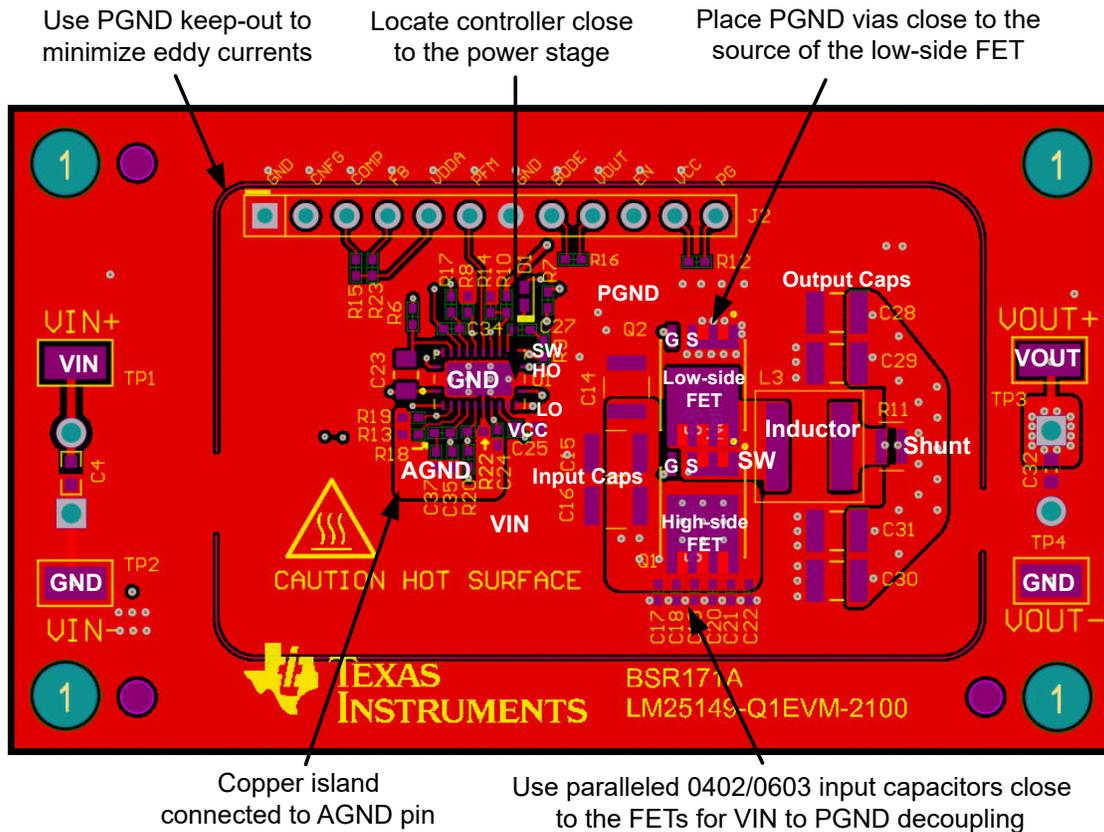

图 9-48. PCB Top Layer - High Density, Single-sided Design
- Connect AVSS to a quiet GND connection, further from IC if possible. Keep decoupling capacitor $C_{AEFVDDA}$ close to the AEFVDDA pin and AVSS GND connection. See capacitor C23 in Figure 9-48.
图 9-48 shows a single-sided layout of a synchronous buck regulator with discrete power MOSFETs, Q1 and Q2, in SON 5-mm × 6-mm case size. The power stage is surrounded by a GND pad geometry to connect an EMI shield if needed. The design uses layer 2 of the PCB as a power-loop return path directly underneath the top layer to create a low-area switching power loop of approximately 2 mm². This loop area, and hence parasitic inductance, must be as small as possible to minimize EMI as well as switch-node voltage overshoot and ringing.
- Make the ground connections to the LM5149 controller as shown in 图 9-48. Create a power ground directly connected to all high-power components and an analog ground plane for sensitive analog components. The analog ground plane for AGND and power ground plane for PGND must be connected at a single point directly under the IC - at the die attach pad (DAP).